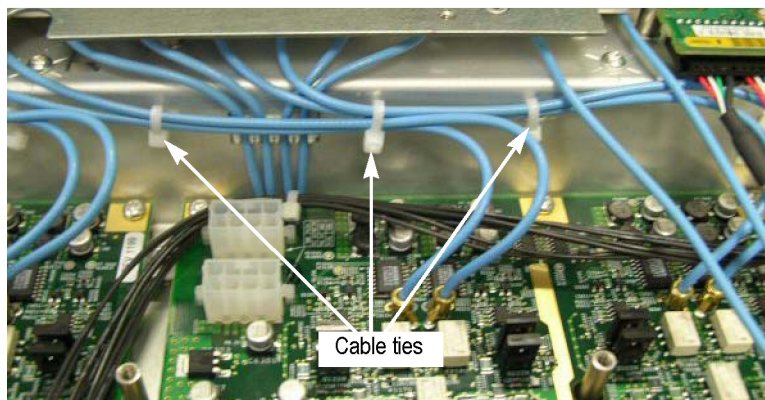

Figure 31: Location of the cable ties
3. Use a wire cutter to remove the three cable ties. (See Figure 31.)